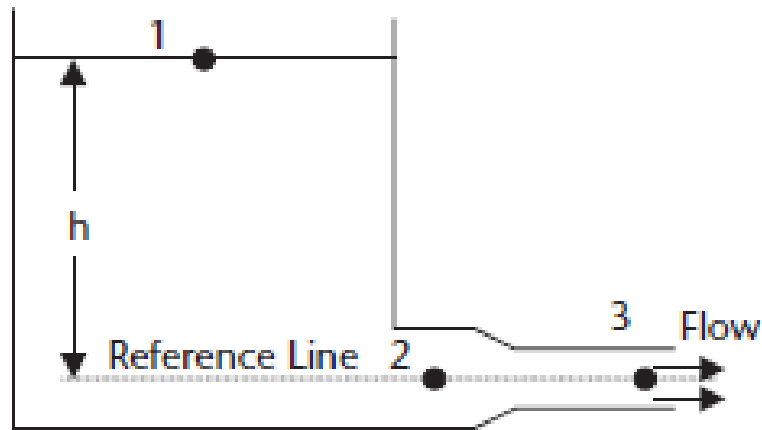

Figure 2(c)/ Rajah 2(c)
- (c) If the pressure at point 2 is 90 psi, calculate the height of the water column, h in Figure 2 (c). The radius at point 2 and 3 are 25 cm and 12.5 cm, respectively.